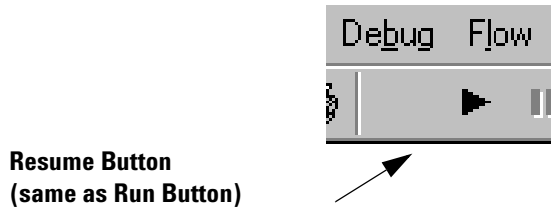

Figure 63 Resume Program (same as the Run Button)
- 3 Resume the program to continue and pause at the next object with a breakpoint set. Click the **Resume** button on the tool bar, shown in Figure 63. (Also in the Debug menu.)